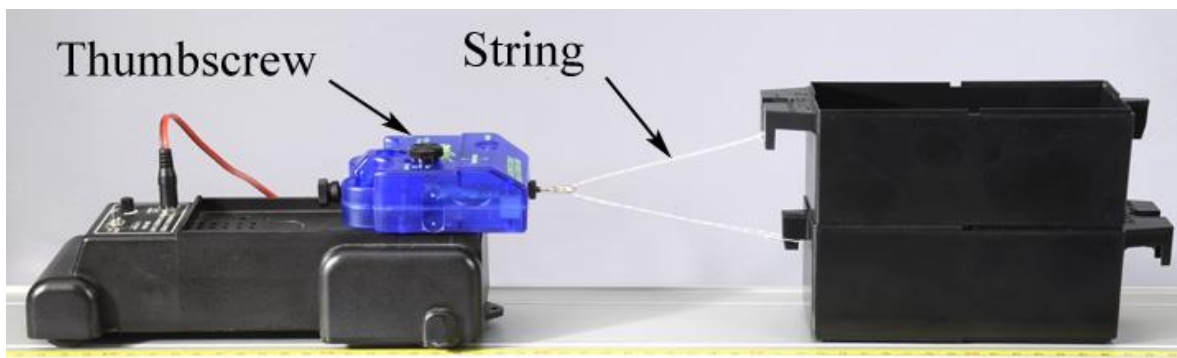

Figure 3: Towing the Friction Carts
5. Connect the Friction Trays to the Force Sensor using string as shown in Figure 3. The lower tray should have the black felt surface. You must always pull with two carts stacked, so that the Force Sensor pulls level. For the top tray, use one of the trays with the white plastic on the bottom. The lower end of the string is just looped around the tray hook: This makes it easier to swap out the lower tray to change the surface.
1. Connect the trays as shown in Figure 3. The bottom two trays should both be the white plastic. Place one of the silver mass bars in each of the two upper trays, and perform the pull test as before.
2. Measure the force from the graph and use equation (1) to calculate the coefficient of friction for the white plastic material.